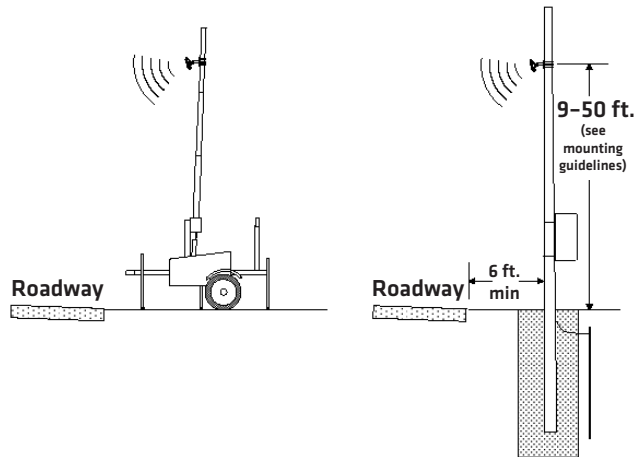

Figure I.1 - Portable (left) and Permanent (right) Sensor Stations
- **Freeway Locations** - The SmartSensor HD is often used at permanent ATR (automatic traffic recorder) stations. The number of stations along a single roadway and the distance between stations should be selected to achieve adequate levels of statistical confidence. Permanent ATR stations, which are selected to cover interstate, principal arterial, and other national and state highways, are used to establish seasonal adjustment factors for count data from temporary collection sites (see Figure I.1).